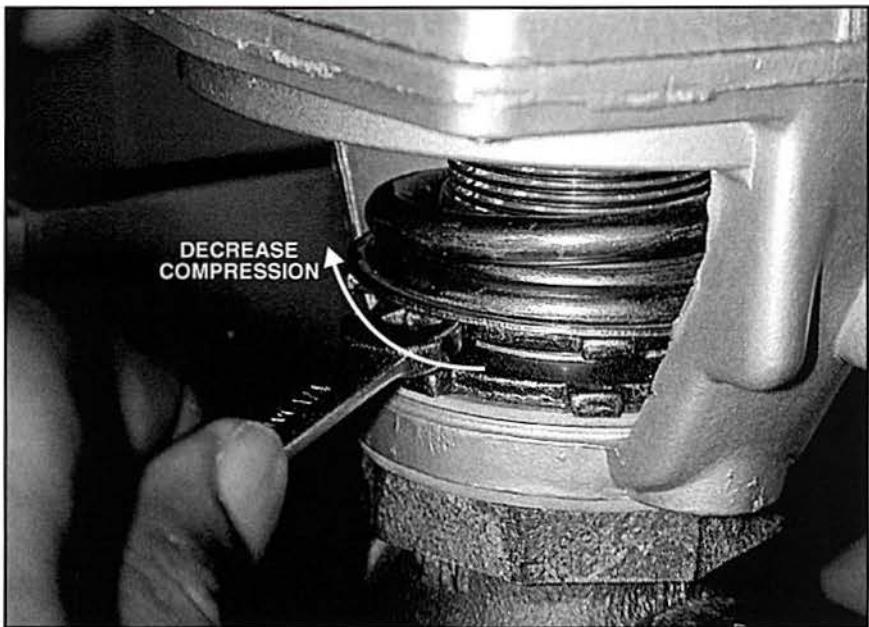

Figure 49. Spring Adjustment
- ❑13. Use your hand or a 1/4-inch wrench to rotate the spring adjustor completely to the left, as shown in figure 49. This places spring compression at its minimum level.